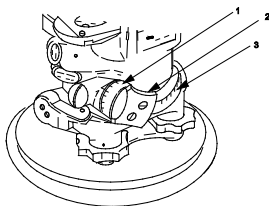

Figure 2. Aiming Circle Azimuth Controls Identification.
4. Each graduation on the azimuth micrometer scale (Figure 2, Item 1) is equal to 1 mil numbered at 10-mil intervals. Black numbers 0-100 mils on the scale read azimuth.
5. The azimuth knob (Figure 2, Item 2) adjusts the elbow telescope in azimuth.
6. Each graduation on the azimuth scale (Figure 2, Item 3) is equal to 100 mils numbered at 200-mil intervals. Black numbers 0-6400 mils read azimuth. This forms the main azimuth scale.